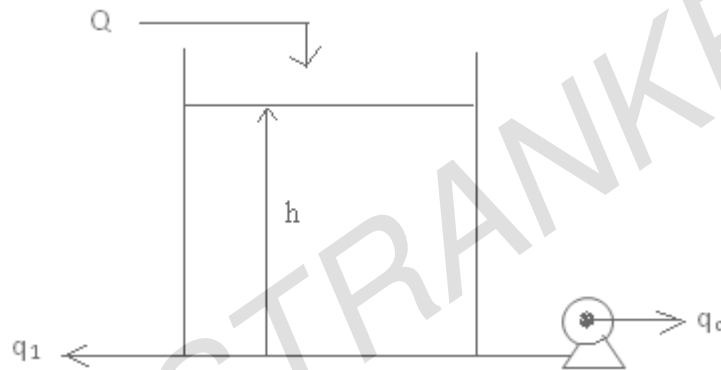

Figure 1:
1. For the following liquid level system shown in figure 1, derive a transfer function from the first principles relating the liquid level (H) of the tank to inlet flow (Q). [16]